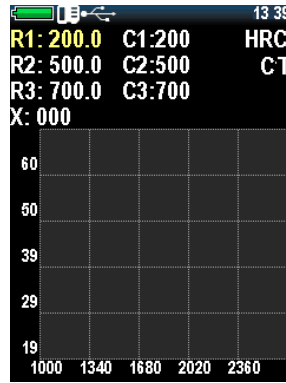

Figure 2.29 - Calibration table
1. Push  to select, you will see the table as in Fig. 2.29. The device, while measurements, receives nominal codes, the purpose of calibration is to find the correlation between the code value and the hardness value (to create the function of dependence).